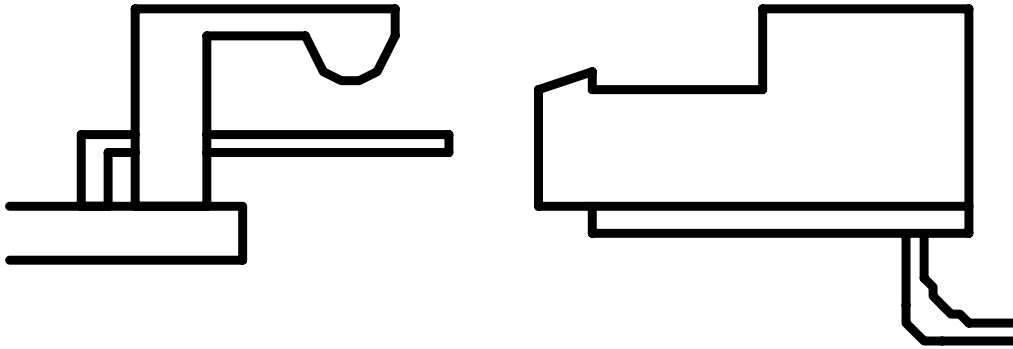

Fig. 5
17. Connect the ribbon cable clip to the new circuit. The clip has a polarity that is important to observe. The correct connection orientation is shown in **Fig. 5** below: